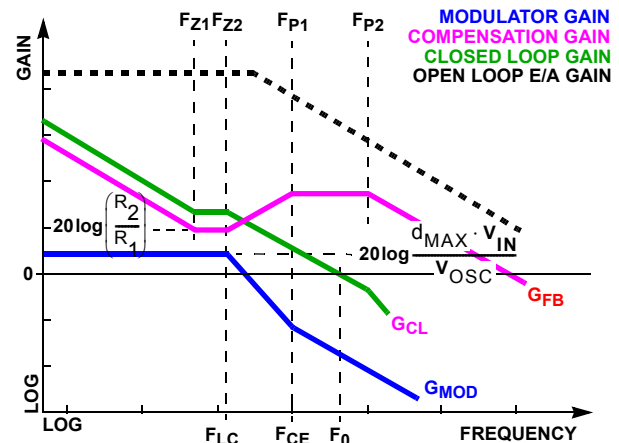

FIGURE 14. ASYMPTOTIC BODE PLOT OF CONVERTER GAIN
Figure 14 shows an asymptotic plot of the DC/DC converter's gain vs frequency. The actual Modulator Gain has a high gain peak dependent on the quality factor (Q) of the output filter, which is not shown. Using the previous guidelines should yield a compensation gain similar to the curve plotted. The open loop error amplifier gain bounds the compensation gain. Check the compensation gain at F_{P2} against the capabilities of the error amplifier. The closed loop gain, G_{CL} , is constructed on the log-log graph of Figure 14 by adding the modulator gain, G_{MOD} (in dB), to the feedback compensation gain, G_{FB} (in dB). This is equivalent to multiplying the modulator transfer function and the compensation transfer function and then plotting the resulting gain.